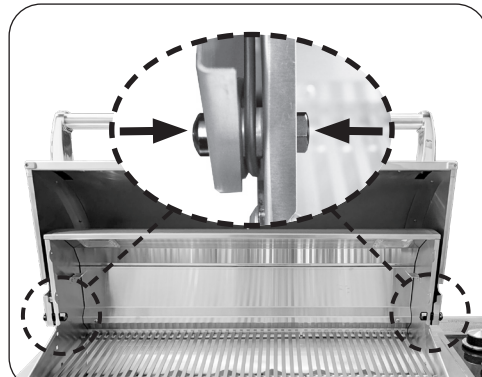

Fig. 41-5 Secure nuts and bolts
3. Align the hood, insert the two bolts, and fully secure with nuts as shown in Fig. 41-5.